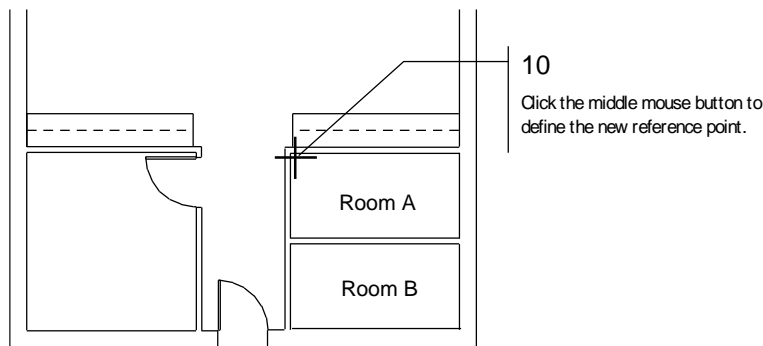

Figure 3.39: Locating the next door.
10. Click the middle mouse button near the upper-left corner of Room A, shown in Figure 3.39. You are prompted to *Select hinge side of door*.